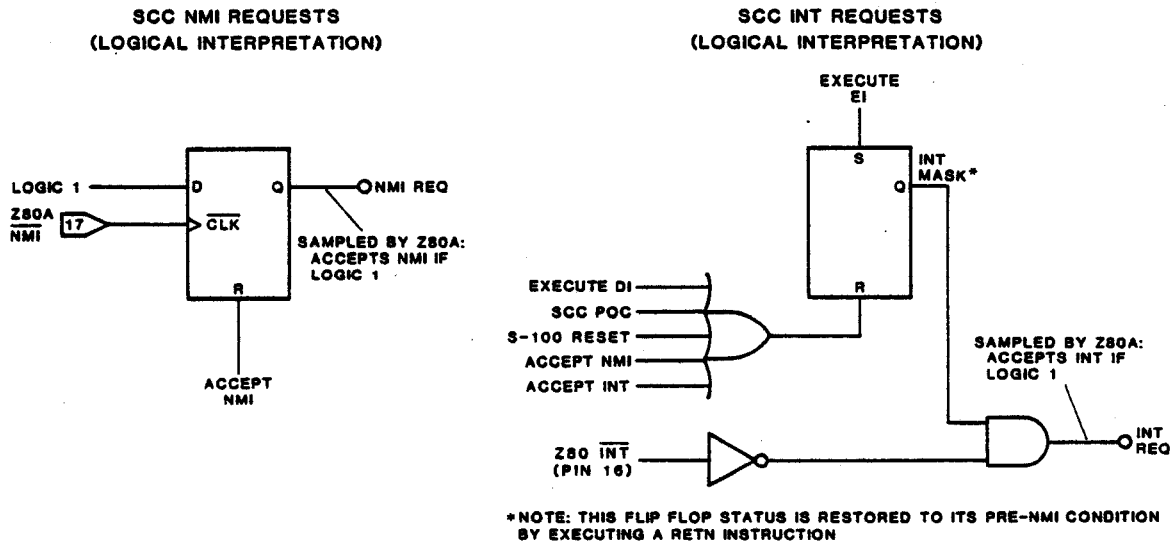

Figure 19: Z80A INTERRUPT REQUEST SAMPLING
NMI INTERRUPT RESPONSE: A Non-Maskable Interrupt Request is made to the Z80A by a falling edge on S-100 bus line NMI, which sets an NMI latch internal to the Z80A (see Figure 19). The Z80A samples its NMI latch output with the rising edge of the last clock cycle at the end of every instruction executed. If an NMI is detected, the Z80A unconditionally accepts the NMI by finishing the current instruction, resetting its NMI latch and disabling maskable interrupts, pushing the Program Counter (PC) contents onto the stack, and jumping to memory address 0066H, the fixed starting address of the NMI service routine. Notice that this is an SCC ROM 0 location, if SCC on-board memory is enabled. The Z80A does not issue Interrupt Acknowledge status (SINTA) to the S-100 bus in response to an NMI. A return from the NMI service routine to the interrupted program may be performed by executing a RETN instruction, which pops the PC contents from the stack and restores the maskable interrupts enabled/disabled status which existed before the NMI, or by executing a RET instruction which pops the PC from the stack but does not restore the previous interrupt status.
The other nine interrupt sources request servicing thru the Z80A's maskable $\overline{\text{INT}}$ pin. The 5501 manages eight of these interrupt sources, and its own INT output pin goes high to request service for any one of them. This signal line is logically combined with S-100 bus line $\overline{\text{INT}}$ so that an interrupt request from either one (5501 pin INT, or S-100 bus line $\overline{\text{INT}}$) forces Z80A pin $\overline{\text{INT}}$ active low (see SCC Schematic Diagram). The Z80A may, or may not, accept the interrupt request depending upon whether interrupts are enabled or disabled. Figure 19 above illustrates the logical relationship between Z80A pin $\overline{\text{INT}}$ and the various masking conditions. The Z80A samples internal line INT REQ with the rising edge of the last clock cycle at the end of every instruction executed (at the same time NMI REQ is sampled; an NMI REQ has higher priority than INT REQ, however). INT REQ is a logical AND of Z80A input $\overline{\text{INT}}$ and a one bit INT MASK. If INT MASK